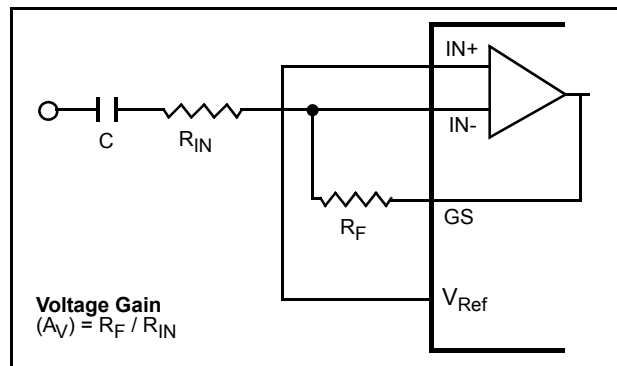
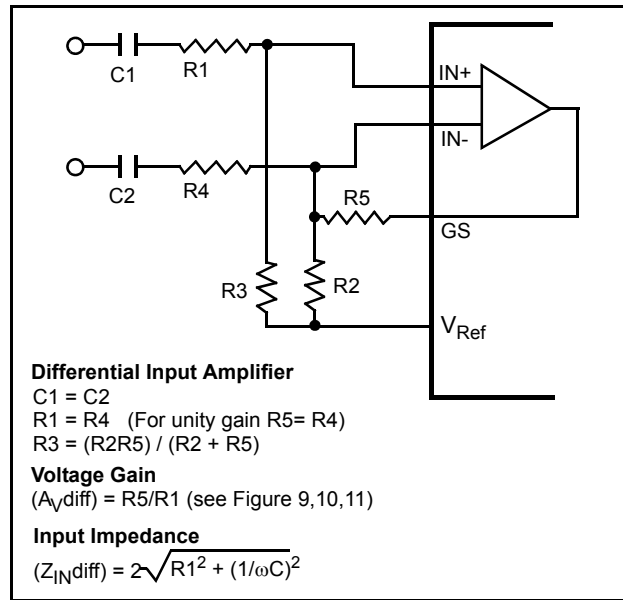

Figure 6 - Single-Ended Input Configuration
Figure 7 - Differential Input Configuration
The MT88E43 provides an input arrangement comprised of an operational amplifier and a bias source (V_{Ref}); which is used to bias the opamp inputs at $V_{DD}/2$. The feedback resistor at the opamp output (GS) can be used to adjust the gain. In a single-ended configuration, the opamp is connected as shown in Figure 6. For a differential input configuration, Figure 7 shows the necessary connections.